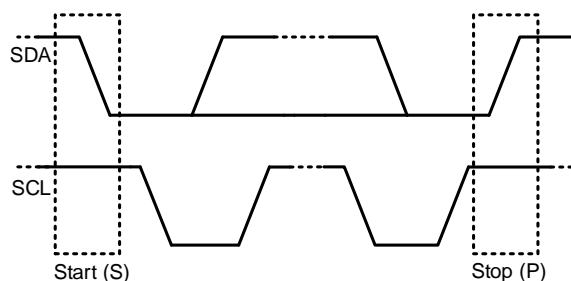

Figure 10: Start and Stop Conditions
All transactions begin with a start (S) condition and are terminated by a stop (P) condition. Start and stop conditions are always generated by the master. A start condition is defined as a high-to-low transition on the SDA line while SCL is high. A stop condition is defined as a low-to-high transition on the SDA line while the SCL is high (see Figure 10).